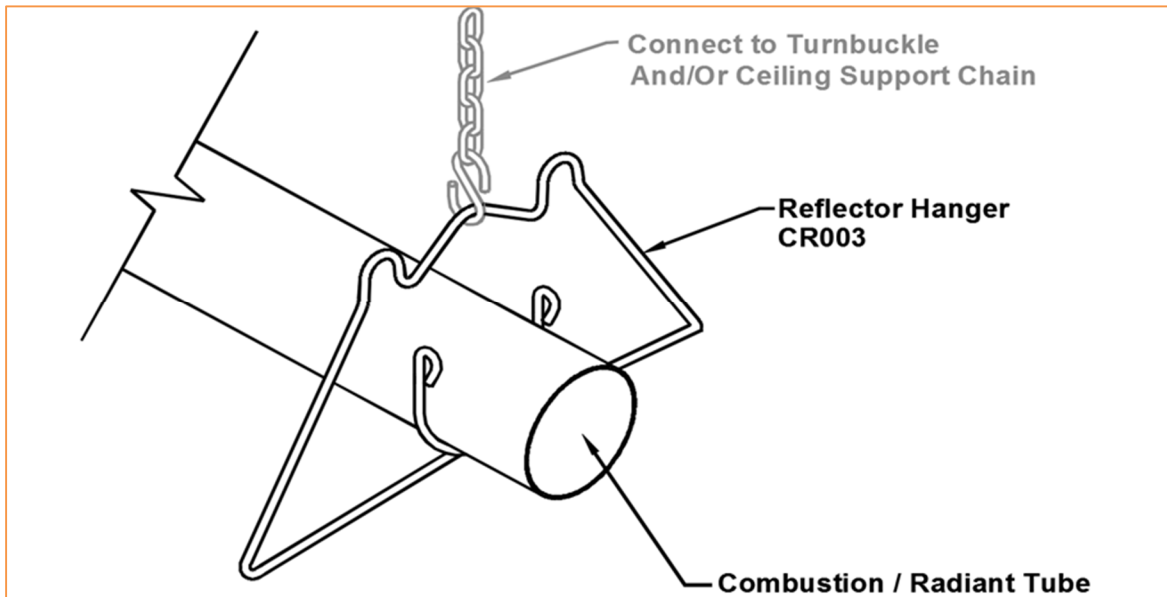

Figure 12: Tube and Reflector Hanger Detail
4. Fasten the Reflector Hanger to the end of the hanging chain and place the Tube in the hanger. Ensure that Combustion Tubes have the Burner mounting hole positioned at 12 o'clock and facing downstream. (Refer to Figure 12).